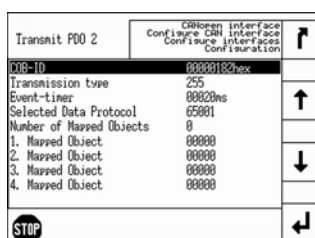

Fig. 216: TPDO configuration for 2nd IKD 1 (example HMI)
1. Set up TPDO2 for the easYgen on the front panel as shown in (Fig. 216).